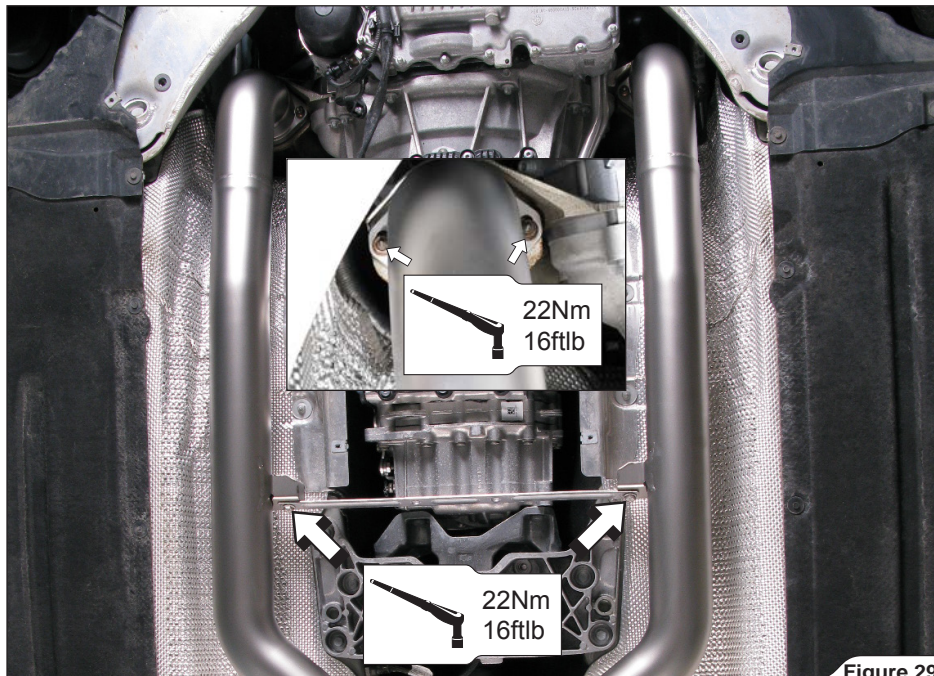

Figure 29
10. Tighten the flange nuts and link pipes linkage bolts to the specified torque (**Figure 29**).